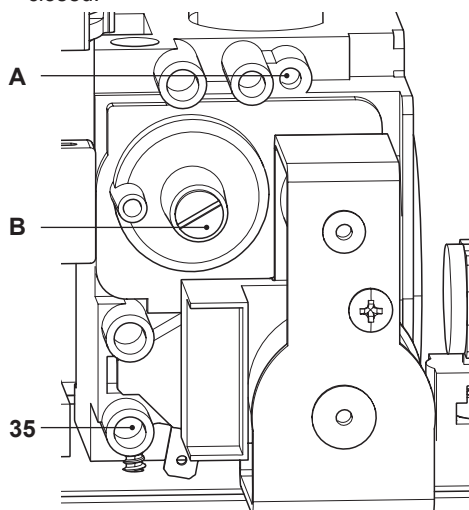

Fig. 7.9
- With the boiler switched on at full rate (maximum output power), check the supply pressure by using the 35 point in Fig. 7.9 and compare the value with that reported on the Gas supply pressure table (minimum inlet pressure) in the "Technical Data" section (pag. 32 **Inovia 25C ERP**, pag. 36 **Inovia 30C ERP** and pag. 40 **Inovia 35C ERP**).
- Ensure the test nipple 35 in Fig. 7.9 is firmly closed.